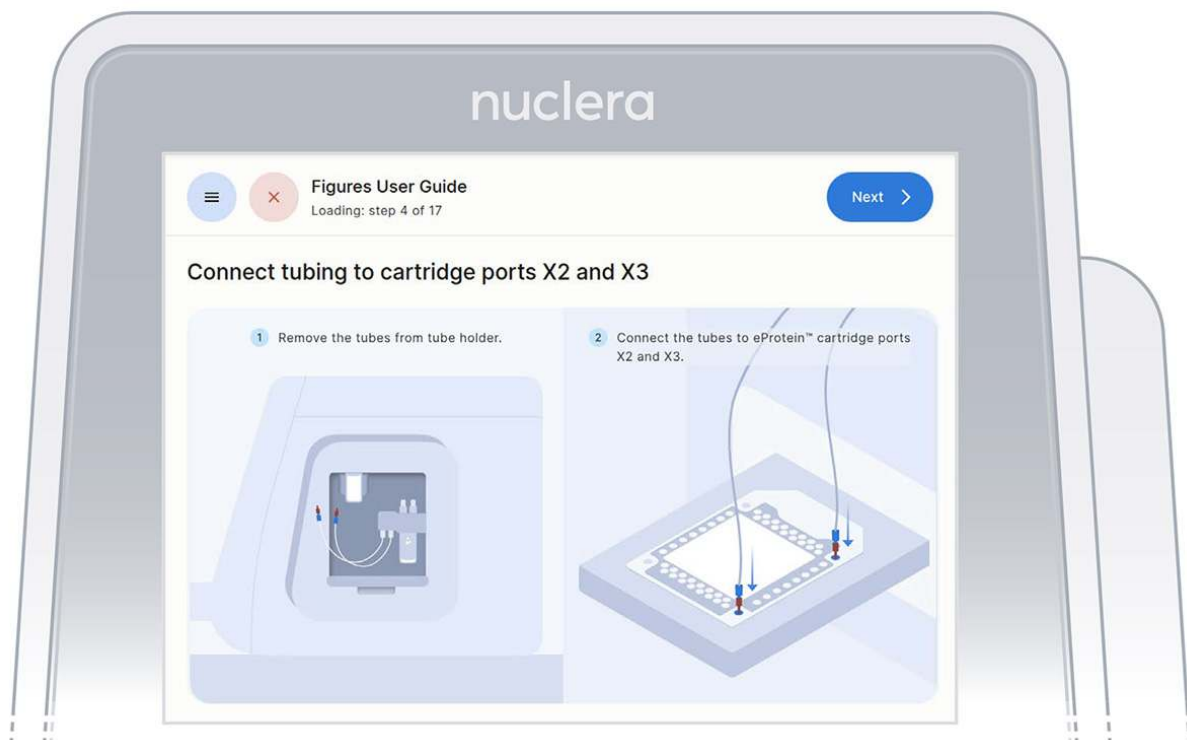

Figure 16: Connection of the pump tubes to the cartridge
2. Remove connectors tubing from the holder, connect them tightly to the corner ports X2 and X3 of the cartridge, and press the **[Next]** button (Figure 16). Either connector can be interchangeably inserted into corner port X2 or X3.